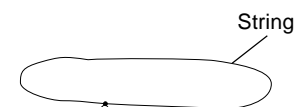

Fig. 2
- (2) String for use in pinch roller snap-fit force measurement (Fig. 2)